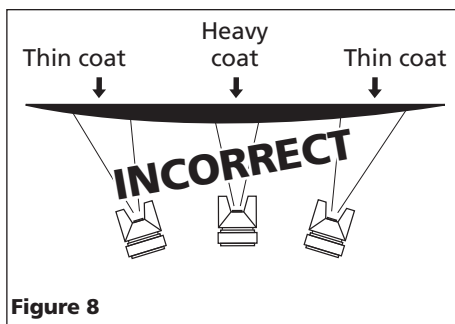

Figure 8
2. Keep the nozzle about 6 to 9 inches from the work surface throughout the stroke and always keep the gun in motion while spraying. Stopping gun movement in mid-stroke will cause a build up of paint and result in runs. Do not fan the gun from side to side while painting. This will cause a build-up of paint in the center of the stroke and an insufficient coating at each end (See Figure 8).